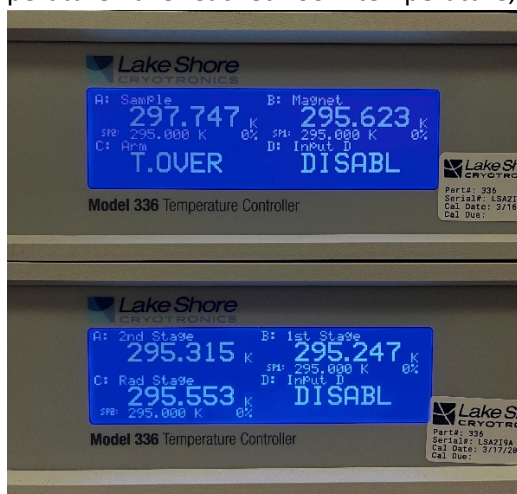
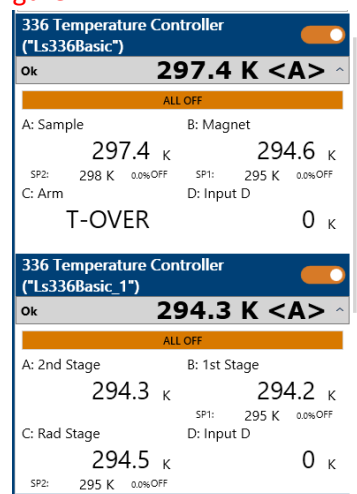

Figure 1. Model 336 controllers
Figure 2. Temperature on the control panel
- The two Model 336 controllers, both in the upper position and the lower position read the temperature at around 298 K, as shown in **Figure 1**. This ensures the chamber is ready to be vented for sample loading. You can also refer to the temperate shown on the control panel from the MeasureLink interface to ensure all the temperature have reached room temperature, as shown in **Figure 2**.